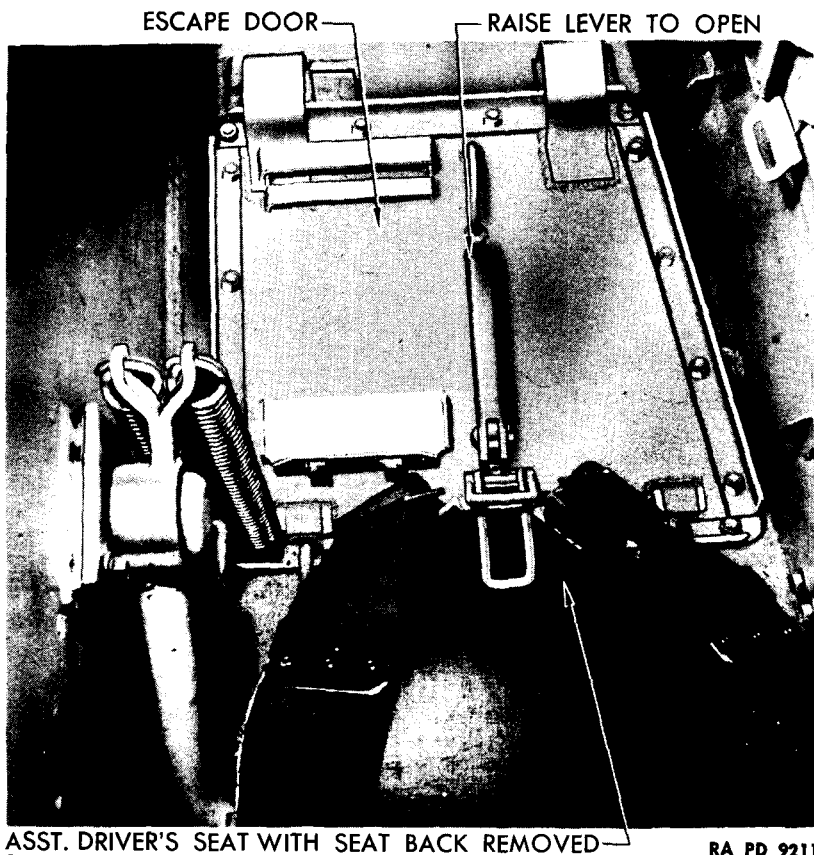

Figure 8 — Escape Door
c. Escape Door. An escape door is provided in the hull floor behind the assistant driver's seat (fig. 8).